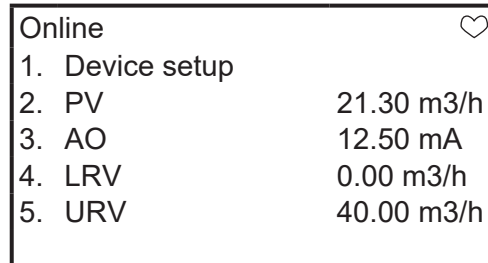
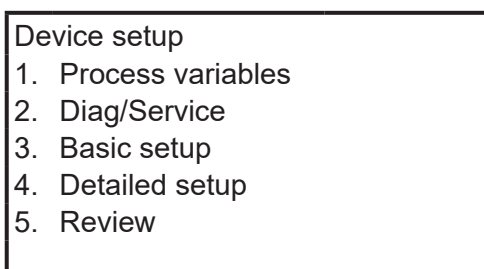

Figure 3 Online menu
Figure 8 Device setup menu
If the display is not as shown in Figure 3 but as shown in Figure 4 below, no communications are being made. Recheck the HART Communicator connections and the setting of converter. (The setting of the converter is described below.)
1. Select "1. Device setup" from online menu 1 (Figure 3). The device setup menu will then be displayed. (Figure 8)
1. Select “4. Detailed setup” from the device setup menu. (Figure 8)